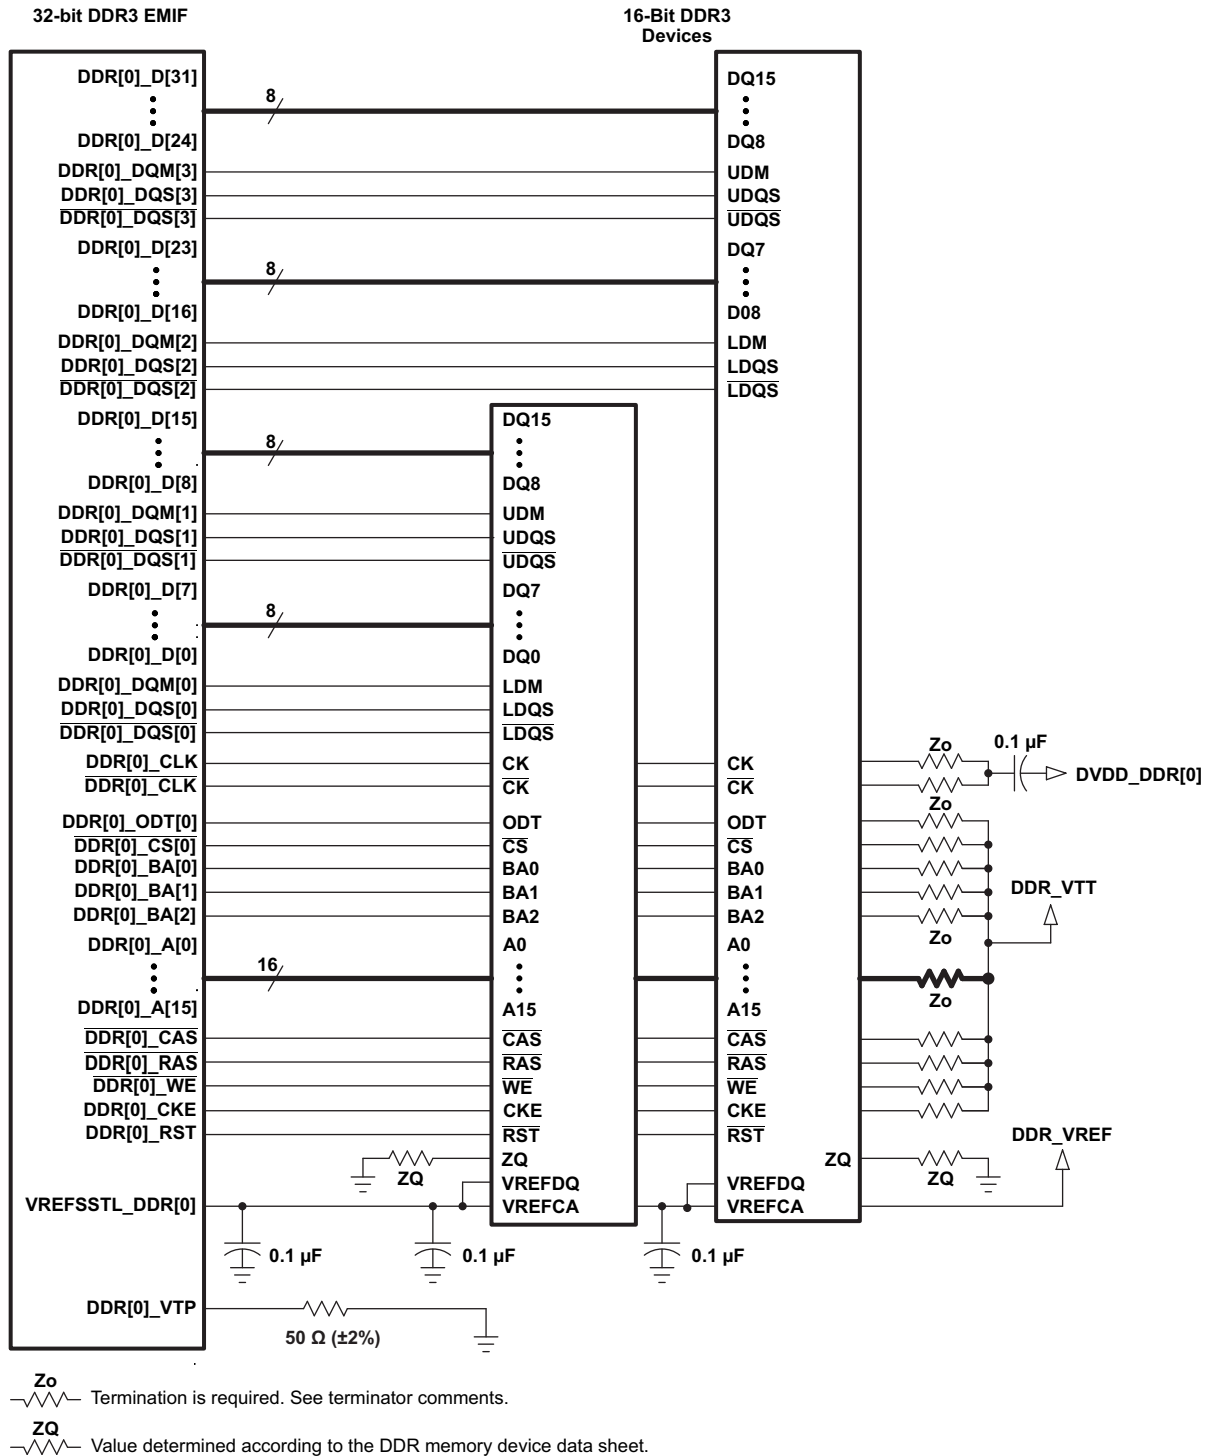
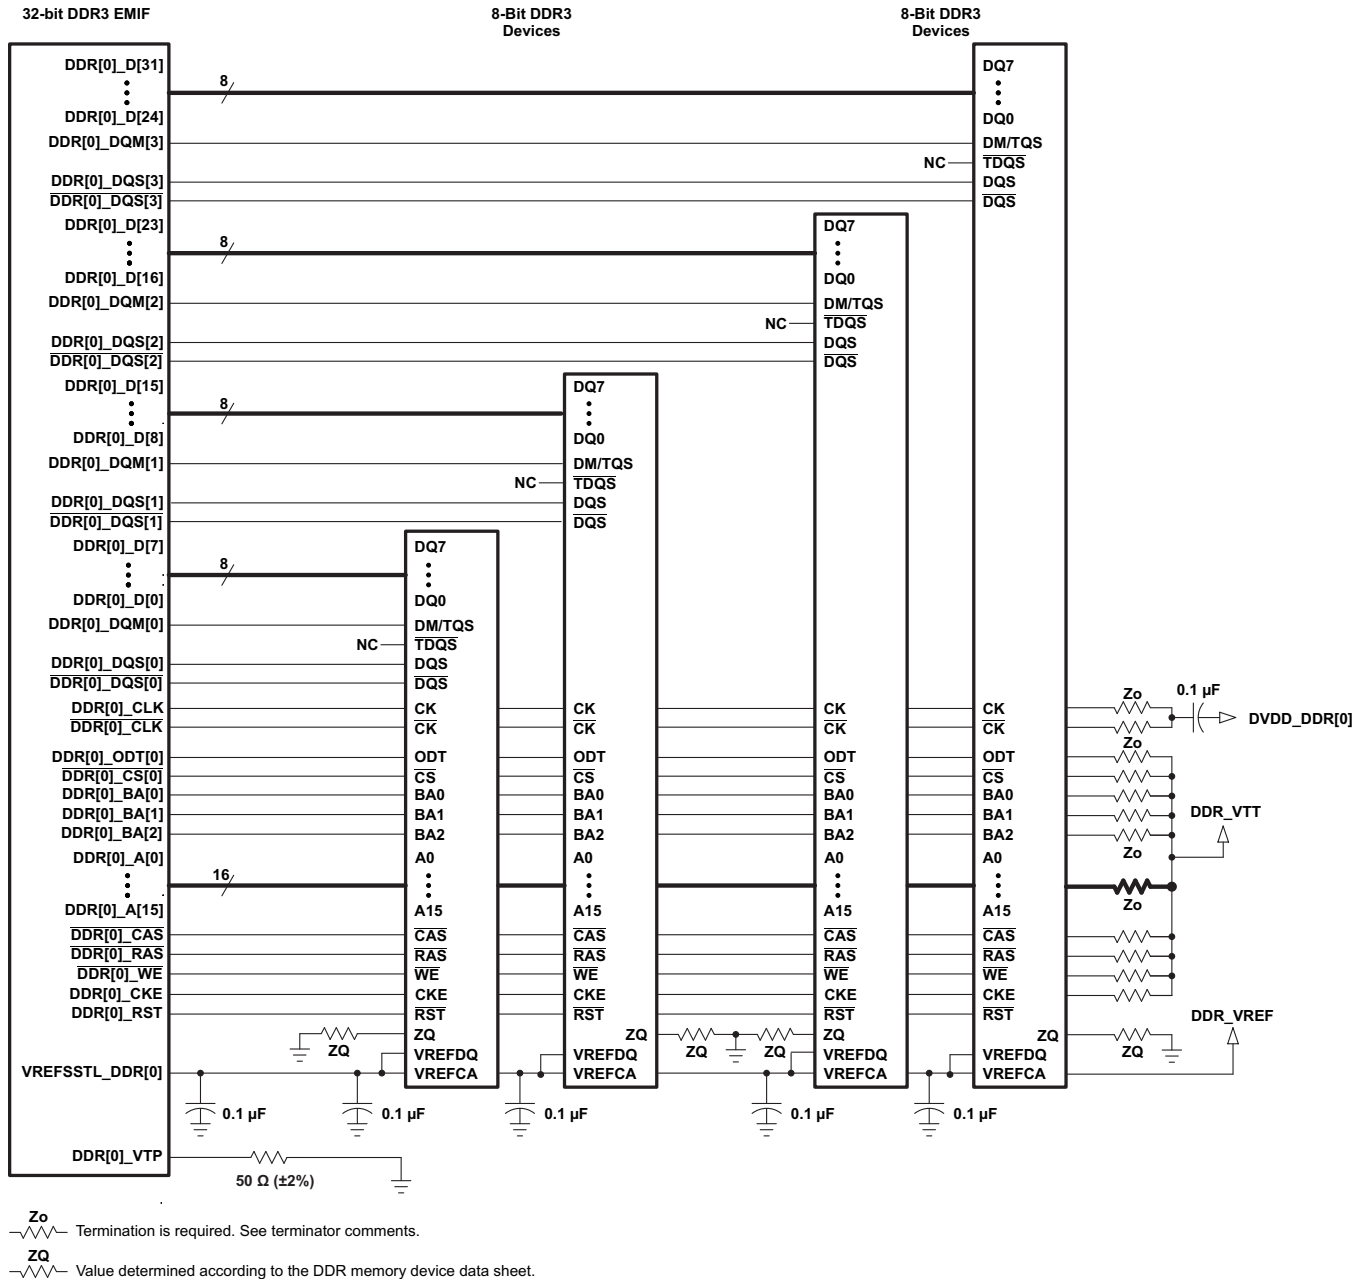

Figure 8-45. 32-Bit, One-Bank DDR3 Interface Schematic Using Two 16-Bit DDR3 Devices
Figure 8-46. 32-Bit, One-Bank DDR3 Interface Schematic Using Four 8-Bit DDR3 Devices
The DDR3 interface schematic varies, depending upon the width of the DDR3 devices used and the width of the bus used (16 or 32 bits). General connectivity is straightforward and very similar. 16-bit DDR devices look like two 8-bit devices. Figure 8-45 and Figure 8-46 show the schematic connections for 32-bit interfaces using x16 devices.
Note that the 16-bit wide interface schematic is practically identical to the 32-bit interface (see Figure 8-45 and Figure 8-46); only the high-word DDR memories are removed and the unused DQS inputs are tied off. The processor `DDR[0]_DQS[2]` and `DDR[0]_DQS[3]` pins should be pulled to the DDR supply via 1-kΩ resistors. Similarly, the `DDR[0]_DQS[2]` and `DDR[0]_DQS[3]` pins should be pulled to ground via 1-kΩ resistors.
(1) DDR3 speed grade depends on desired clock rate. Data rate is 2x the clock rate. For DDR3-800, the clock rate is 400 MHz.
(2) DDR3 devices with higher speed grades are supported; however, max clock rate will still be limited to 533 MHz as stated in Table 8-46 *Switching Characteristics Over Recommended Operating Conditions for DDR3 Memory Controller*.
(3) For valid DDR3 device configurations and device counts, see Section 8.12.3.3, Figure 8-45, and Figure 8-46.